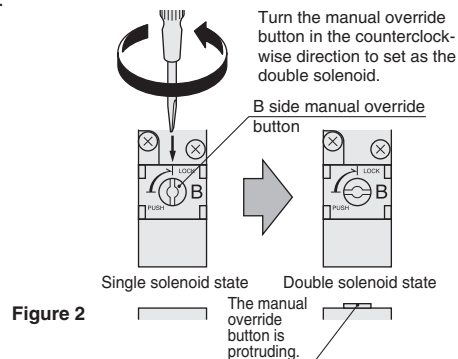

Figure 2
- As shown in Fig.2, use a small screwdriver, etc. to turn the manual override on the B side by 90 degrees in the counterclockwise direction, so that the manual override button's slit is horizontal, as shown on the right side of the figure. Then the unit can be used as a double solenoid valve. When using it as a double solenoid valve, the button is used as the manual override button for the B side.